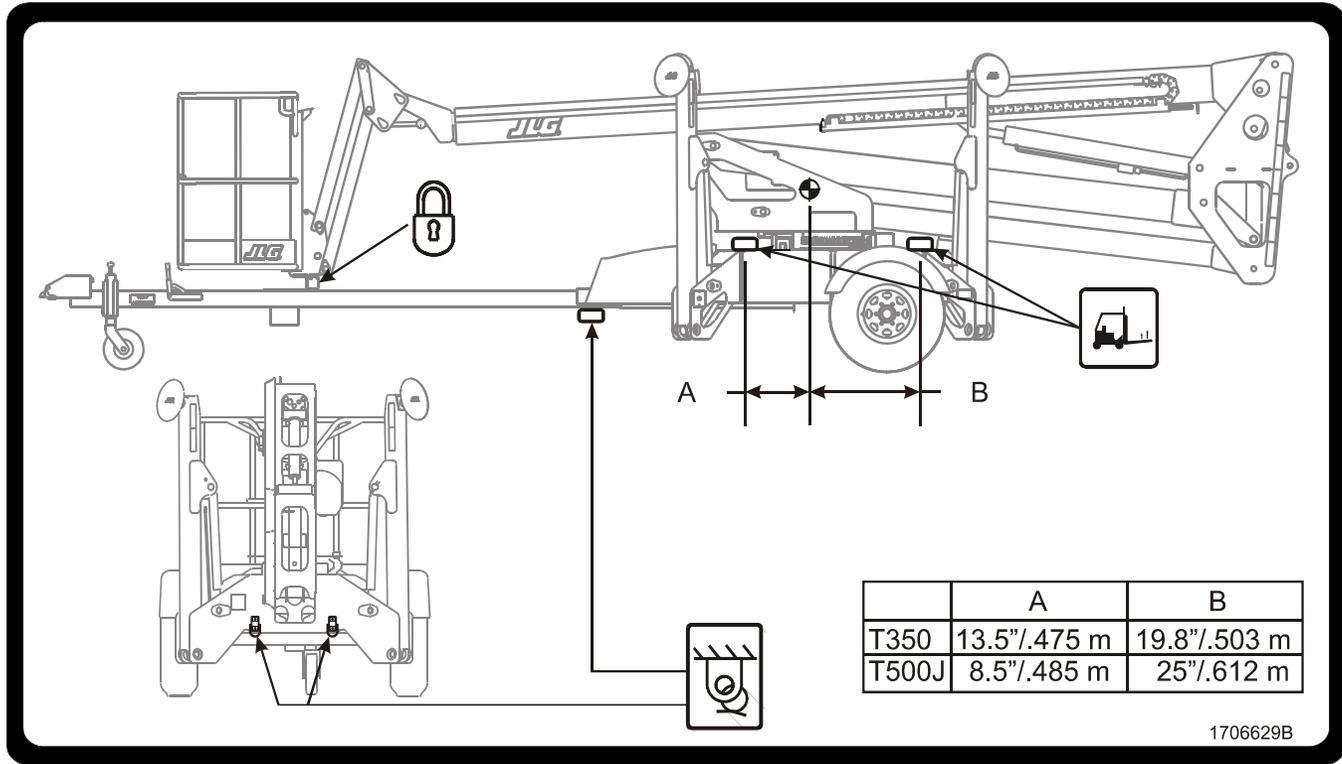

Figure 5-8. Lifting and Tie Down Chart S/N 0030000864 to Present
1. Place the boom in the stowed position and secure with the transport latch. (See Figure 5-8.)
3. Secure the chassis and the platform using straps or chains of adequate strength and attached to the designated tie down points. (See Figure 5-8.)